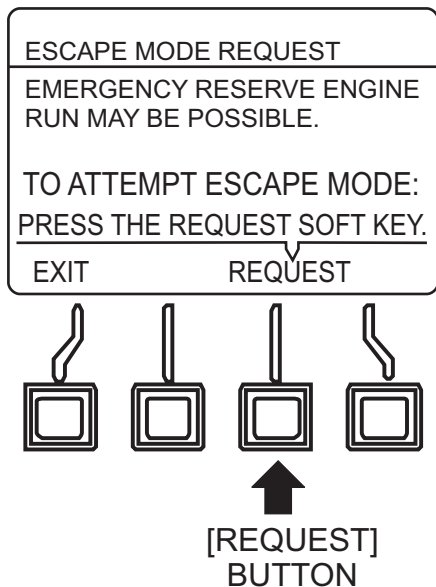

Figure 97. Escape Mode (Request Button)
- Press the **[REQUEST]** button (Figure 97) to send "Escape Mode Request" signal to ECM.